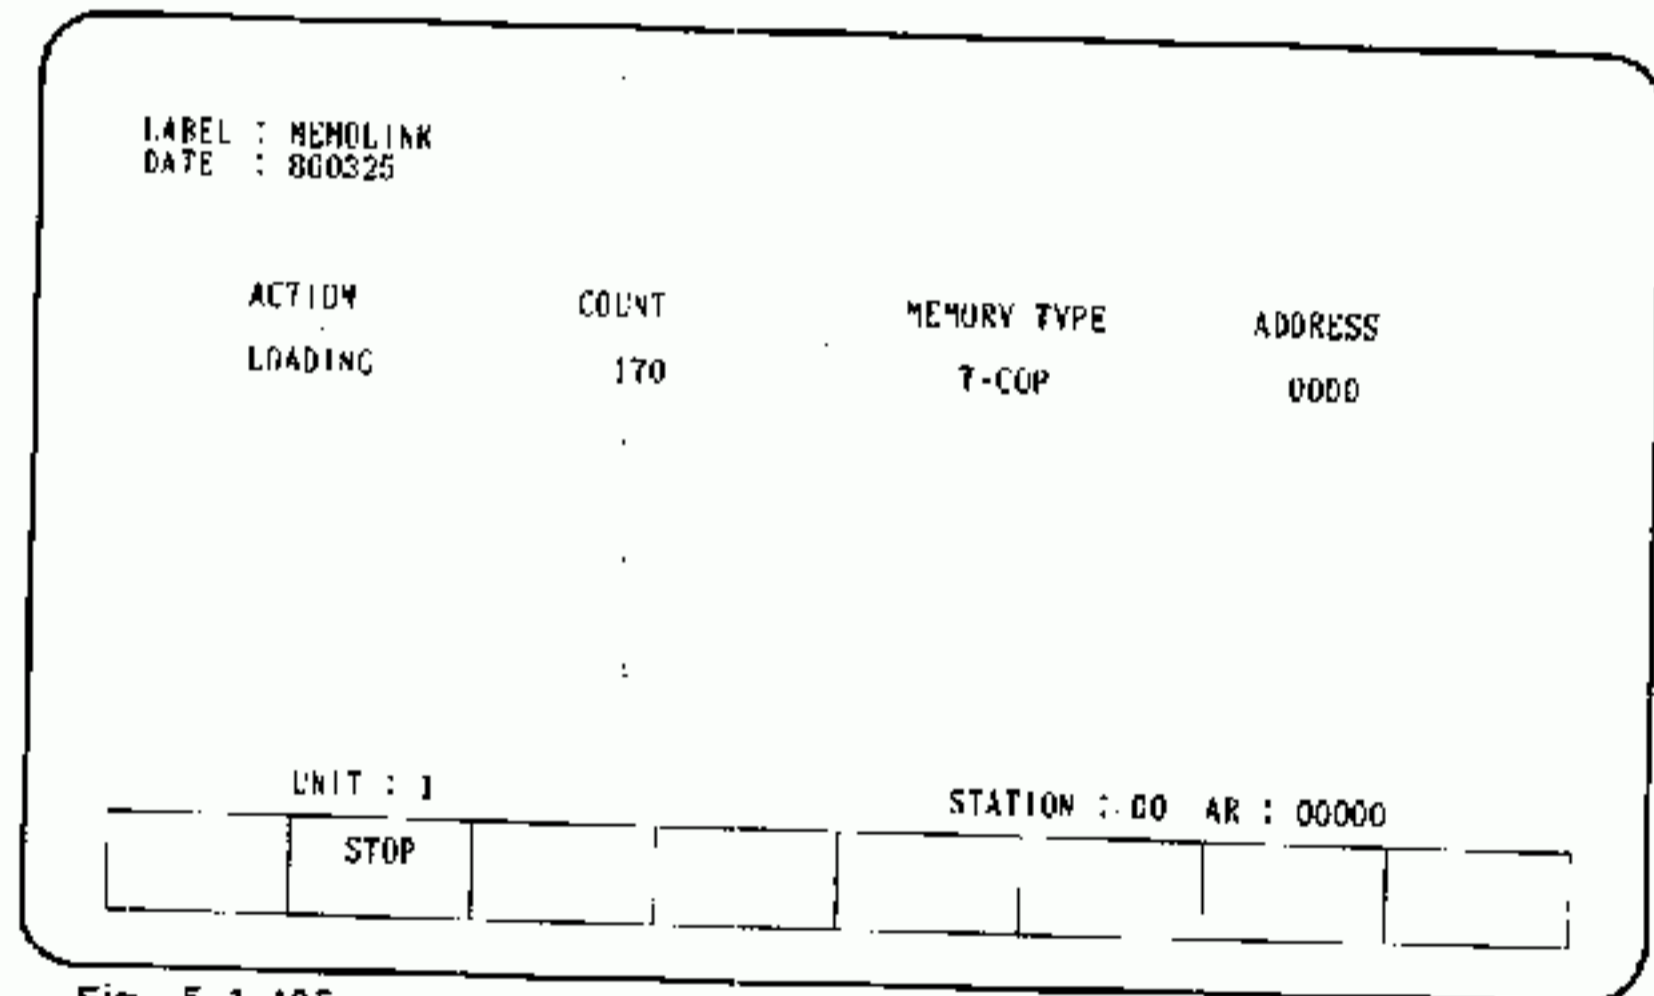
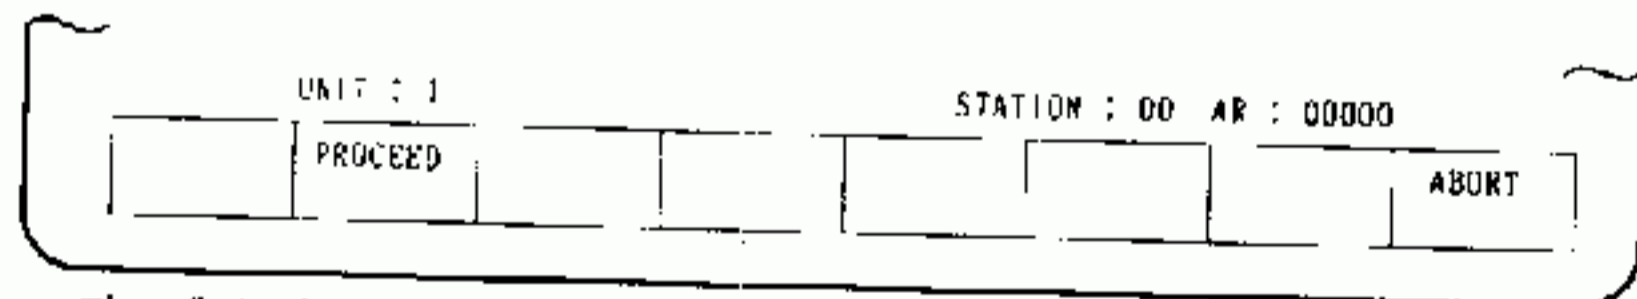

Fig. 5.1.105
Fig. 5.1.106
2. If "STOP" is depressed in Fig. 5.1.105, Fig. 5.1.106 is displayed. If "PROCEED" is depressed, the load is continued. If "ABORT" is depressed, the operation stops, and Fig. 5.1.103 is displayed again.
(4) Verifying Allocation Data